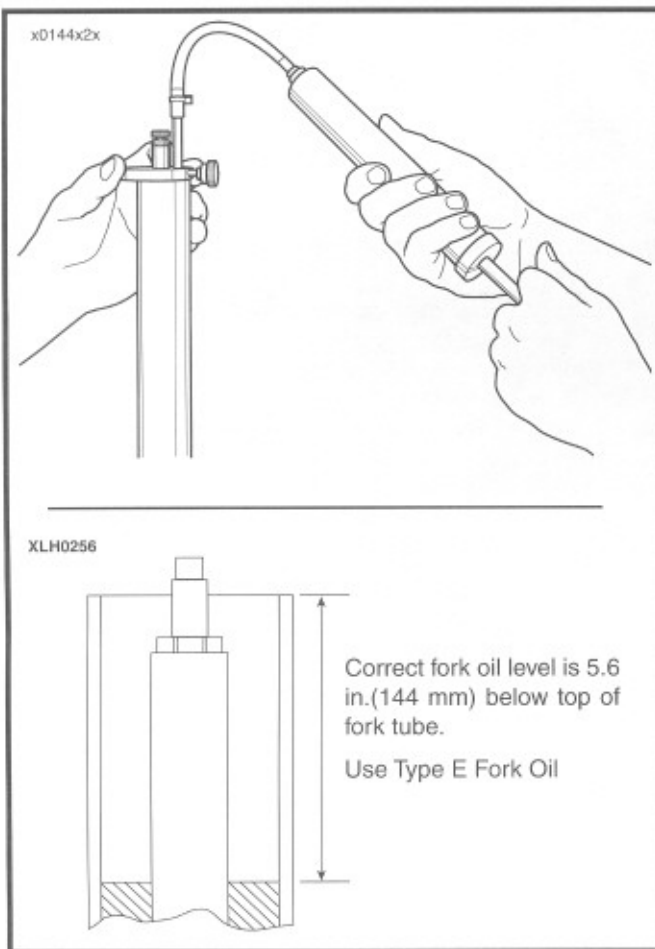

Figure 2-73.
15. See Figure 2-73. Using the Pro-Level Oil Gauge (HD-59000A) adjust oil level to 5.6 in. (144 mm).